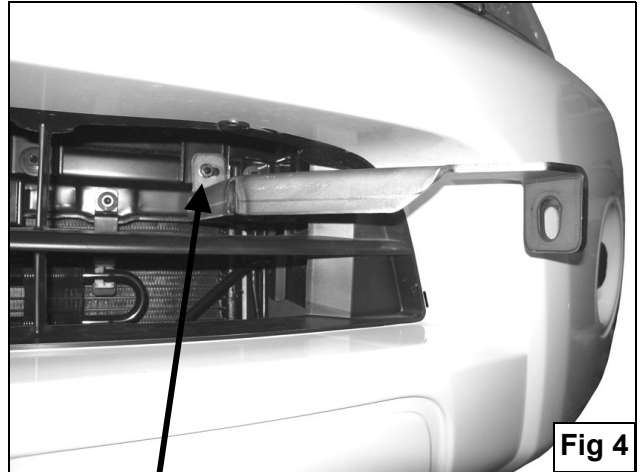

Fig 4
6. Through upper outer bumper intake use a 10mm socket wrench to remove the factory nut located on the driver side. Position driver side Top Bracket over factory threaded stud and secure it using the factory nut (**Figure 4**). Repeat this step for passenger side. **NOTE:** On the passenger side there is no factory nut, so position passenger side Top Bracket over factory threaded stud and use the included (1) 6mm Flange Nut to secure it.